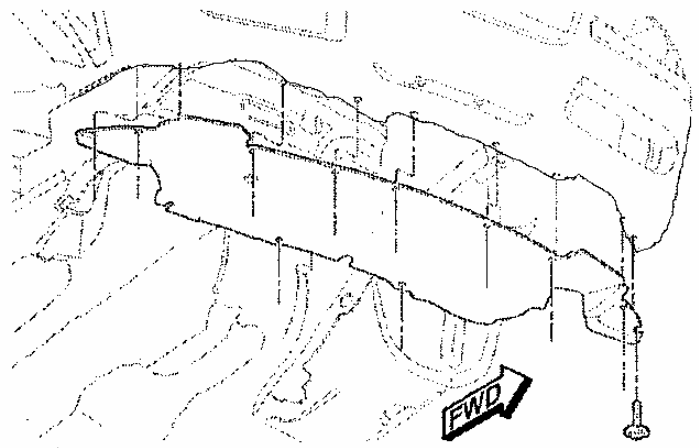

Figure B5
-  5. Using a 7mm socket, remove the nine screws that hold the front clip to the underbody. (see figure B5)
-  4. Reinstall the nine screw into the bottom of the front clip (see figure B5)